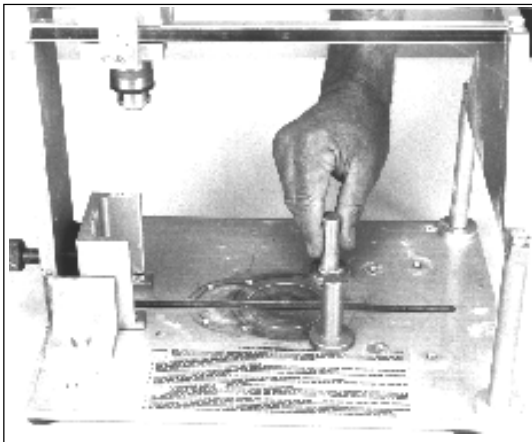

FIGURE 6 - PUT STOP POSTS INTO CUTTER
4.03 Insert stop-posts in tapped holes in base of cutter corresponding to the 6.5", 8" or 9.5" End Plate diameter and hand tighten firmly. (Figure 6)